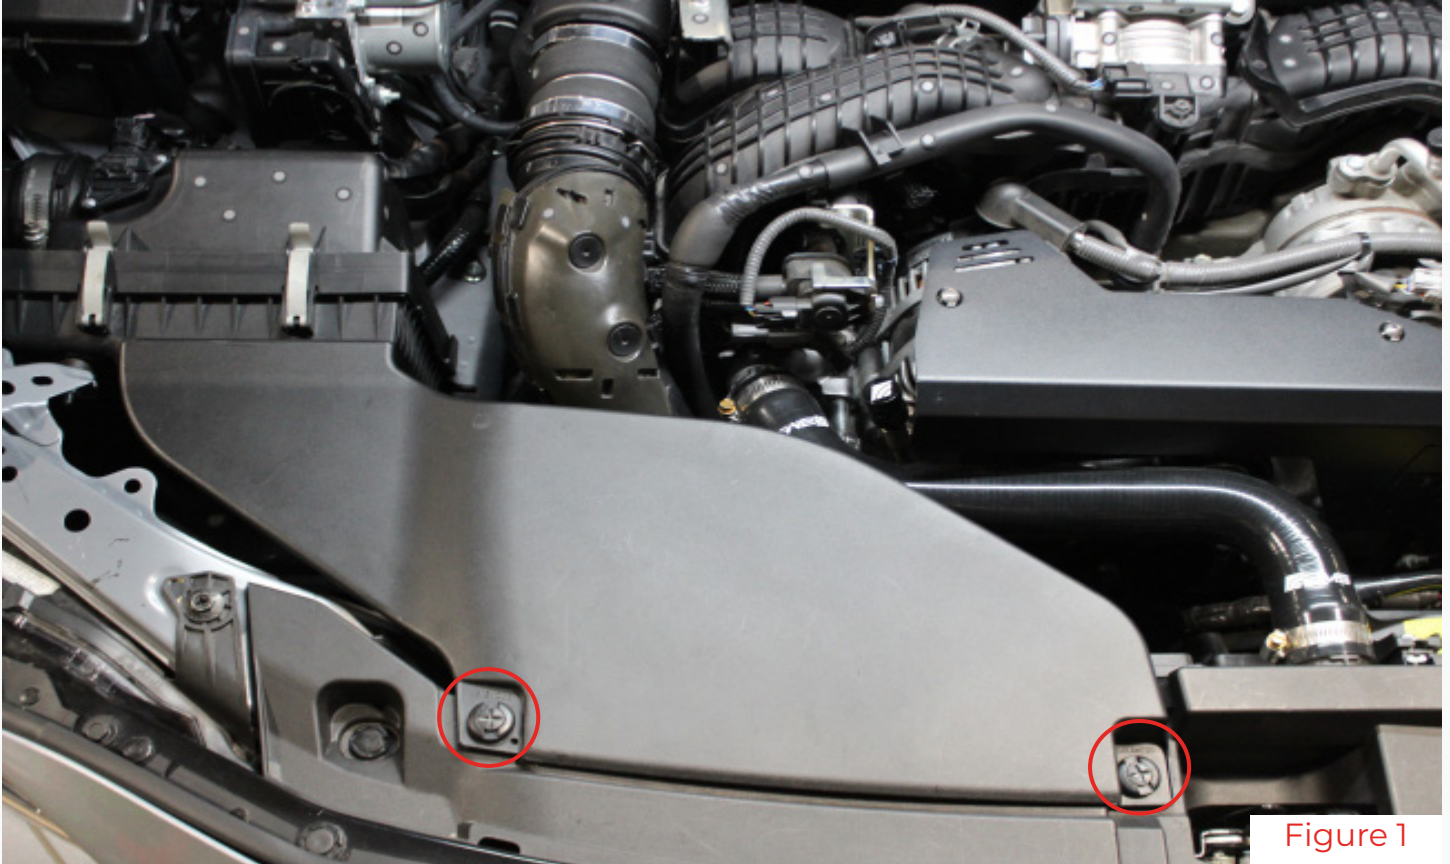

Figure 1
1. Remove stock intake duct. (2) phillip head clips secure the duct (Figure 1).